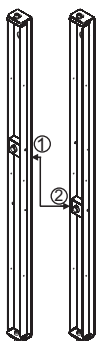

Figure-2
- * From ① to ② to change the camera position. (See Figure-2)